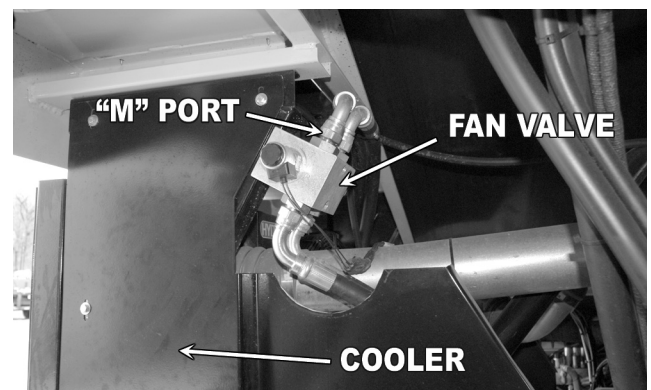

Figure 34. Fan Valve
1) Remove hose from “M” port on the fan valve located behind the cooler (Fig 34). Cap the end of the hose and install a 3000 psi gage into port “M” on the fan valve. This port is an SAE 16 and requires a 1 1/2” wrench for the hose and cap.